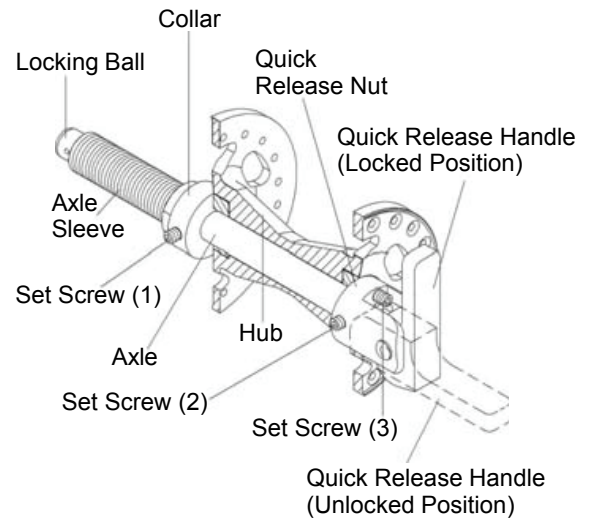

Figure 65
1. Flip the quick release handle to the unlocked position and remove rear wheel and quick release axle. See Figure 65.
1. Flip the quick release handle to the unlocked position and remove rear wheel and quick-release axle. See Figure 65.